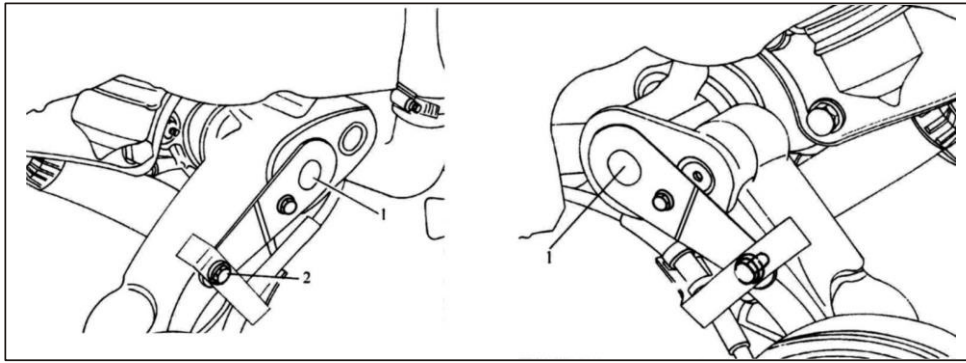

Figure 4-38 Tighten Rocker Arm Fixing Bolt
(11) As indicated in Figure 4-38, coat both left and right blanking covers with sealant, install the plug 1 on both left and right sides of rocker arm,.